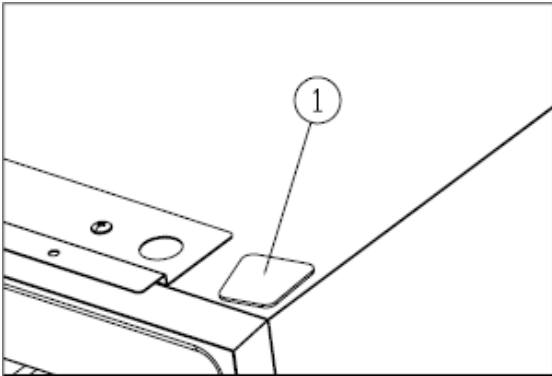

Figure 4
- ✧ Install the germinal lid①. [Figure 4]